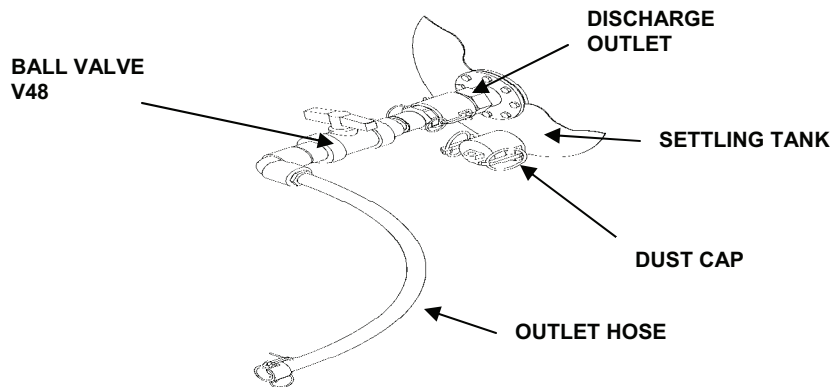

Figure 5. Settling Tank Outlet Spool Piece.
8. Remove the dust plug from the filler fitting or the dust cap from the discharge fitting. See Figure 5.
13. Attach the outlet spool piece by feeding the longer hose through the water tank fitting and connect the camlocks. See Figure 5.